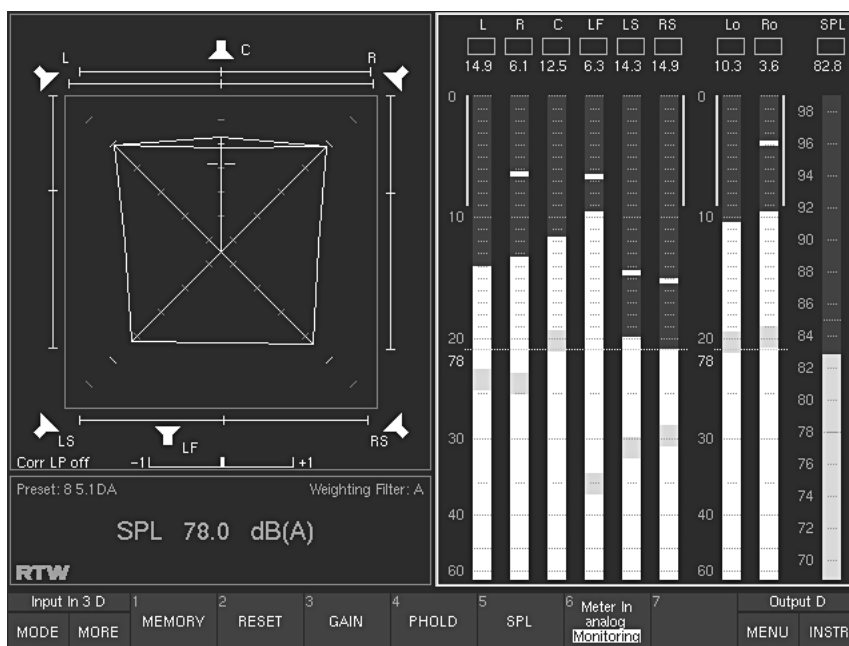

Fig. 3-4: Screen display with PPM instrument selected
(Button/Key 1, see Fig. 3-4)
(Button/key 2, see Fig. 3-4)
(Button/key 3, see Fig. 3-4)
(Button/key 4, see Fig. 3-4)
(Button/key 5, see Fig. 3-4)
(Button/key 6, see Fig. 3-4)